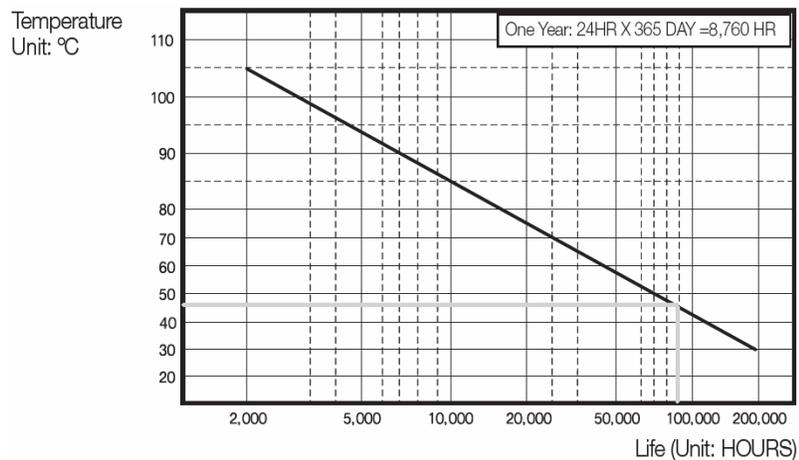

Figure 1
Digital Video Recorder (hereinafter referred to “DVR”) is a high-tech security equipment that contains a high-capacity HDD and top-notch circuits. High temperature inside or outside of the product may reduce the product life, deteriorate performance (see the Figure 1 below; it explains the correlation between temperature and product life), and lead to a malfunction.
6. As shown in the Figure 1, the temperature inside the rack and around the DVR should maintain between 0 and 45°C.